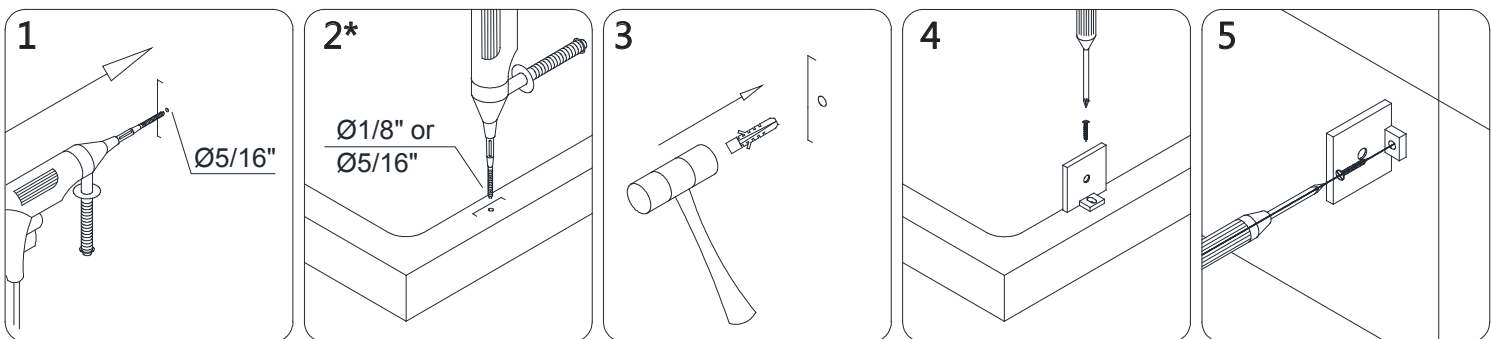

Fig 4
4. Drill the holes in the wall using a **Ø5/16"** drill bit and insert the **Wall Anchors (#9b)** for two of the **Wall Brackets (#19)**. Mount the **Wall Brackets (#19)** to the wall using the **Round Head Screw ST4.2×55 (#18)**. *Drill a hole into the threshold using a **Ø1/8"** drill bit for an acrylic base (or **Ø5/16"** and an anchor for tile) and mount the remaining **Wall Bracket (#19)** to the threshold using the **ST4.2x40 Countersunk screw (#17)**. **(Fig 4)**